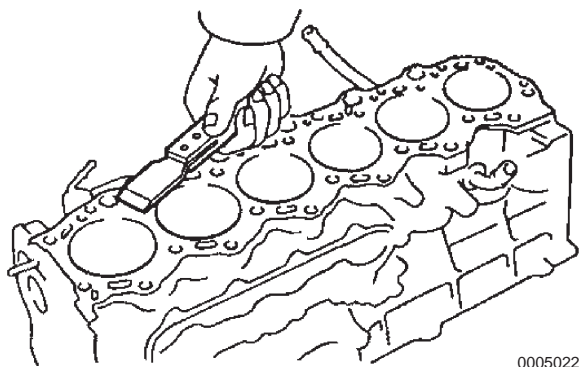

Figure 5-99
1. Use a scraper to remove any remaining gasket material from the top of the cylinder block (**Figure 5-99**).